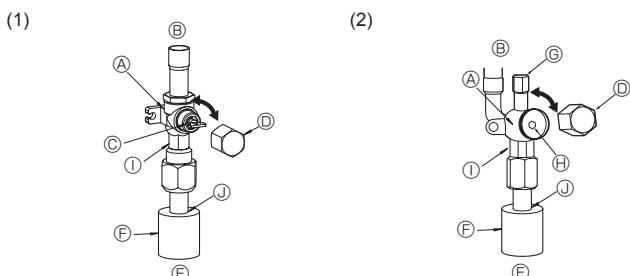
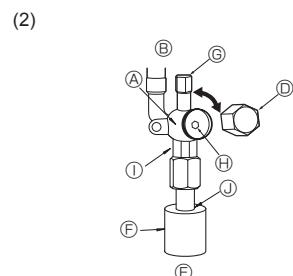

Fig. 4-6
Fig. 4-7
- (1) Gas side (Fig.4-6)
- ① Remove the cap, pull the handle toward you and rotate 1/4 turn in a counterclockwise direction to open.
- ② Make sure that the stop valve is open completely, push in the handle and rotate the cap back to its original position.
- (2) Liquid side (Fig.4-7)
- ① Remove the cap and turn the valve rod counterclockwise as far as it will go with the use of a 4 mm hexagonal wrench. Stop turning when it hits the stopper.